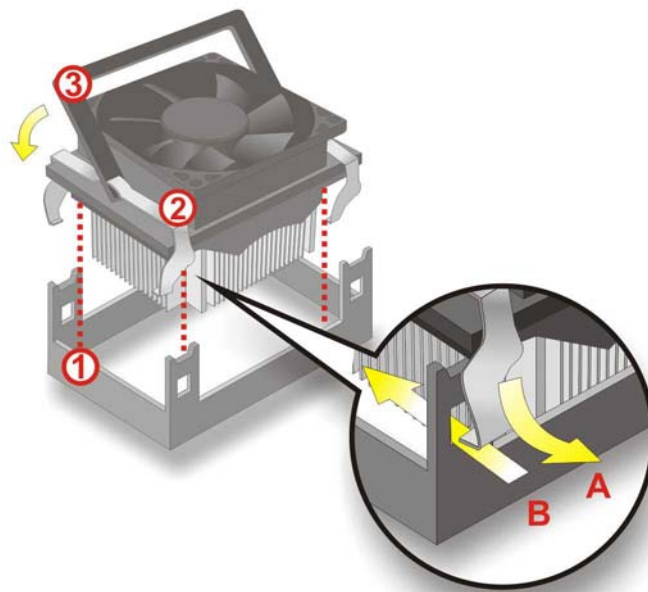

Figure 4-5: Install the CPU cooler
- Step 3:** Install the cooling kit into the preinstalled cooling kit bracket. See Figure 4-5.
- Step 4:** Attach the levered mounting clips. Slip the four levered mounting clips into the clip holes on the cooling kit bracket. See Figure 4-5.
- Step 5:** Secure the cooling kit in place. Gently push the plastic mounting clip down to lock the cooling kit. See Figure 4-5.